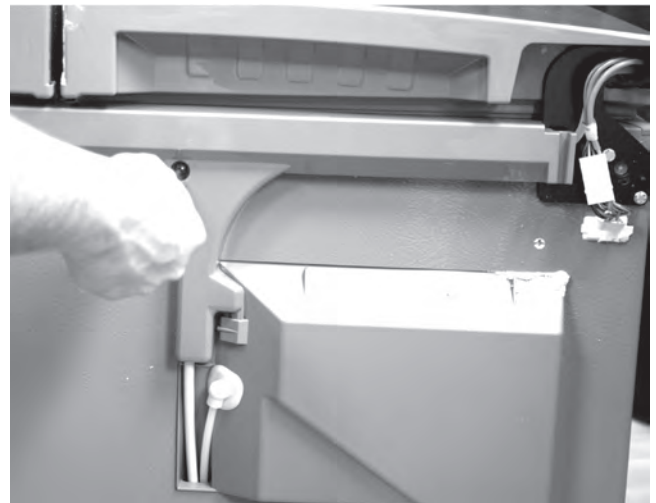

Figure 4
3. Remove the Phillips head screw securing the "T" shaped cover to the top of the cabinet, see figure 4.